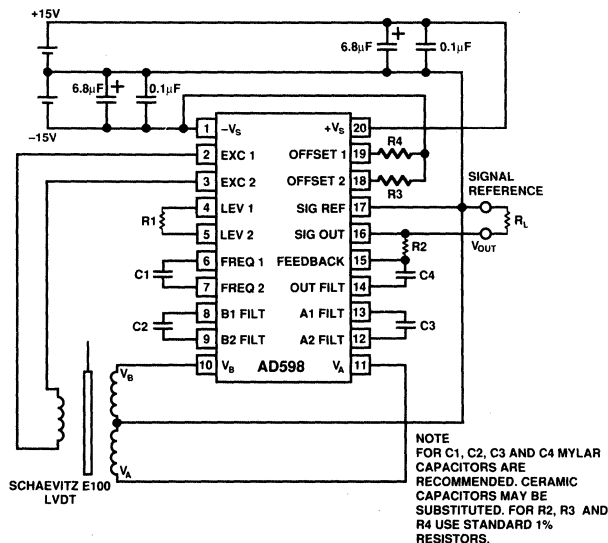
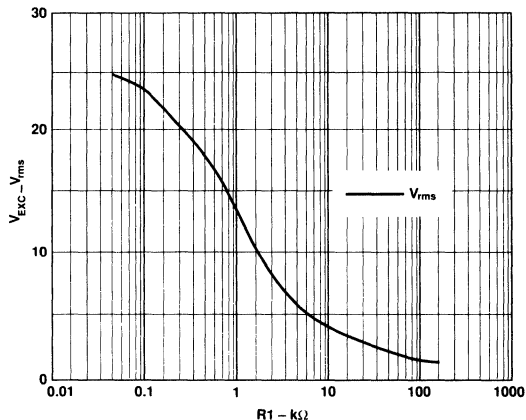
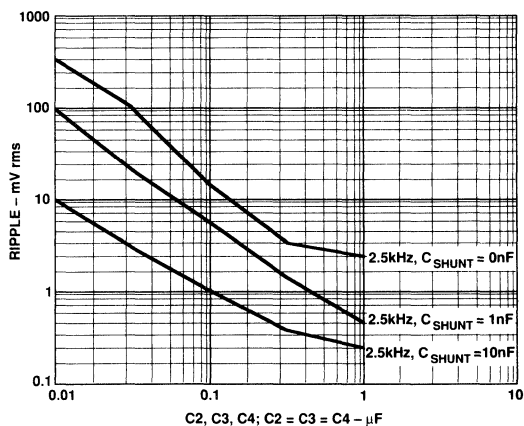

Figure 7. Interconnection Diagram for Dual Supply Operation
Figure 8. Excitation Voltage  $V_{EXC}$  vs.  $R1$
Figure 16. Output Voltage Ripple vs. Filter Capacitance
1 $V_A$  and  $V_B$  represent the Mean Average Deviation (MAD) of the detected sine waves. Note that for this Transfer Function to linearly represent positive displacement, the sum of  $V_A$  and  $V_B$  of the LVDT must remain constant with stroke length. See "Theory of Operation." Also see Figures 7 and 12 for R2.
8R1 is shown in Figures 7 and 12.
The AD598 can easily be connected for dual or single supply operation as shown in Figures 7 and 12. The following general design procedures demonstrate how external component values are selected and can be used for any LVDT which meets AD598 input/output criteria.
Figure 7 shows the connection method with dual  $\pm 15$  volt power supplies and a Schaevitz E100 LVDT. This design procedure can be used to select component values for other LVDTs as well. The procedure is outlined in Steps 1 through 10 as follows:
6. Referring to Figure 7, for  $V_S = \pm 15$  V, select the value of the amplitude determining component R1 as shown by the curve in Figure 8.
$V_{OUT}$  is measured with respect to the signal reference, Pin 17 shown in Figure 7.
C4, from Figure 7, are all equal and designated as a parameter in the figures. The response is approximately that of two real poles. However, there is appreciable excess phase at higher frequencies. An additional pole of filtering can be introduced with a shunt capacitor across R2, (see Figure 7); this will also increase phase lag.
When selecting values of C2, C3 and C4 to set the bandwidth of the system, a trade-off is involved. There is ripple on the "dc" position output voltage, and the magnitude is determined by the filter capacitors. Generally, smaller capacitors will give higher system bandwidth and larger ripple. Figures 16 and 17 show the magnitude of ripple as a function of C2, C3 and C4, again all equal in value. Note also a shunt capacitor across R2 shown as a parameter (see Figure 7). The value of R2 used was 81 kΩ with a Schaevitz E100 LVDT.